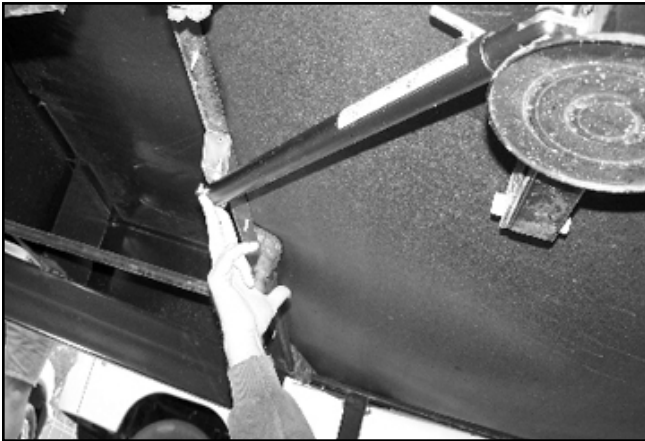

Fig.12
8. After removing the locking pliers, attach swing-bolt to remaining mounting hole with a $\frac{3}{8}$ " locking nut and washer (**Fig.12**).